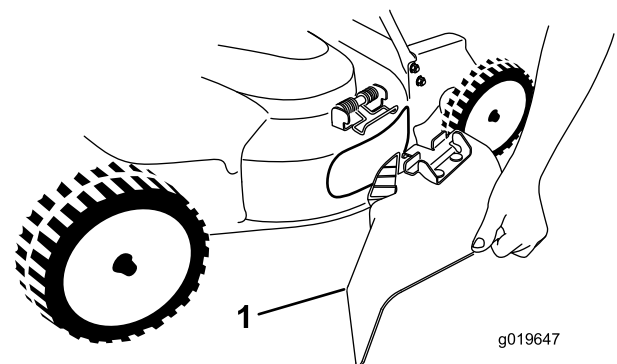

Figure 21
5. Install the side-discharge chute (Figure 21) by pulling up on the spring, placing the chute over the opening, and lowering the spring over the tabs on top of the discharge chute.